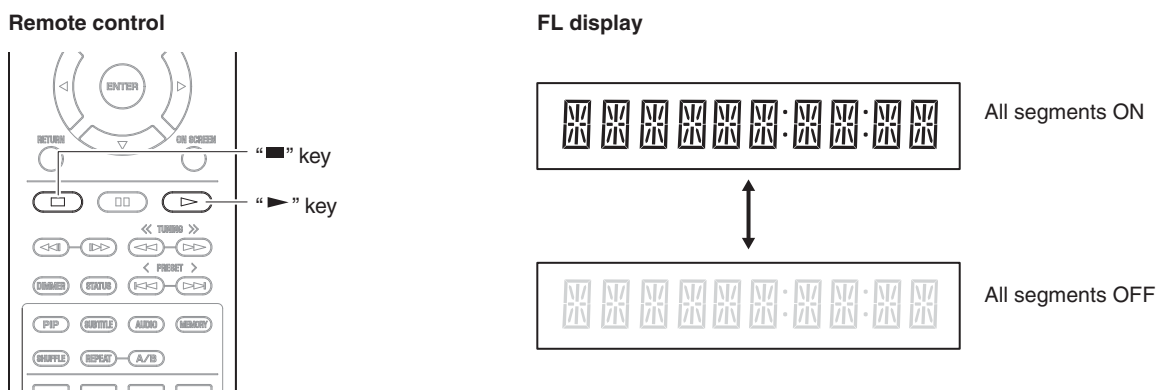

Fig. 3
- 1) Press the "▶" (Play) key on the remote control. (Fig. 3)
Check that all segments of the FL display turn on. (Fig. 3)
- 2) Press the "■" (Stop) key on the remote control. (Fig. 3)
Check that all segments of the FL display turn off. (Fig. 3)
Press each key one by one and check that the corresponding key name is displayed properly. (Fig. 3)